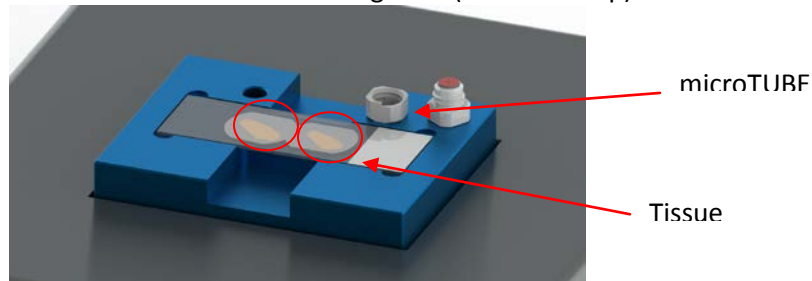

Figure 2 – Slide placed into sectionWARMER
5. Place the FFPE tissue section slide in the slot as shown in figure 2 (tissue side up) and wait for 30 seconds.